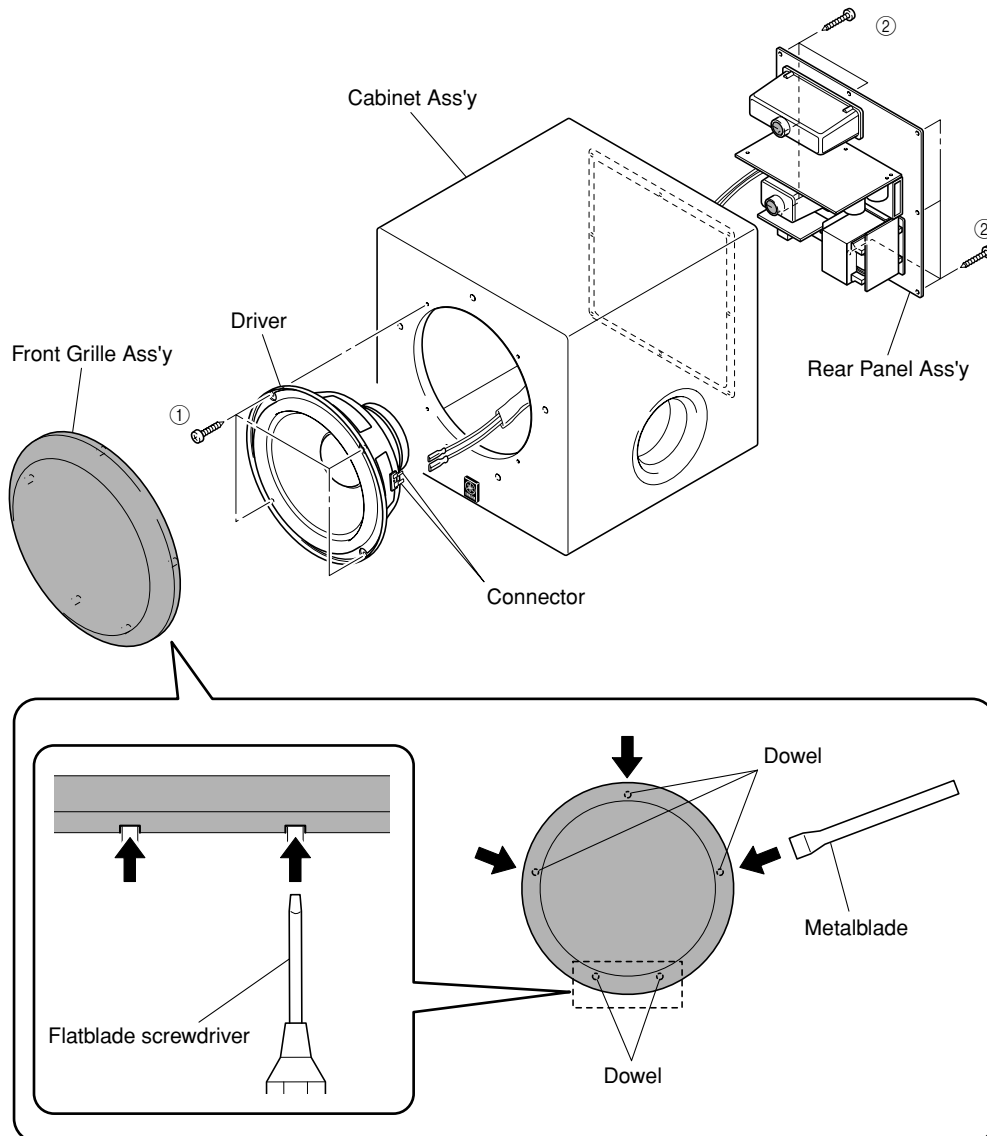

Fig. 1
- a. Using the flatblade screwdriver inserted in the gap between the Front Grille Ass'y and the Cabinet Ass'y (bottom side first), push up the Front Grille Ass'y. (Fig.1)
- b. Remove the Front Grille Ass'y by lifting a metalblade up. (Fig.1)
- a. Remove 4 screws (①) and remove the Driver. (Fig.1)
- b. Disconnect the connector connected to the terminal of the Driver. (Fig. 1)
- a. Remove 8 screws (②) and remove the Rear Panel Ass'y. (Fig.1)
- \* Screws (②) are identified with arrow marks (◀).